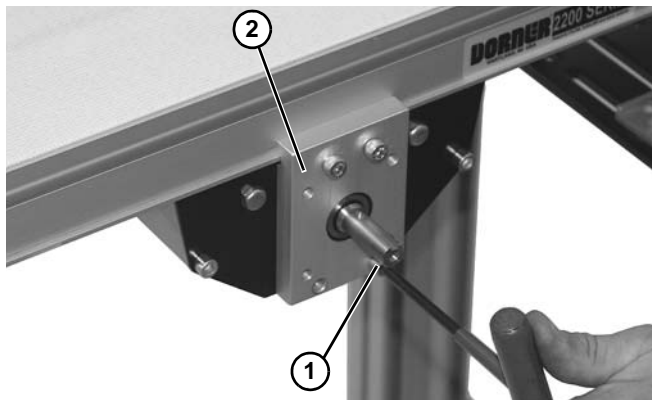
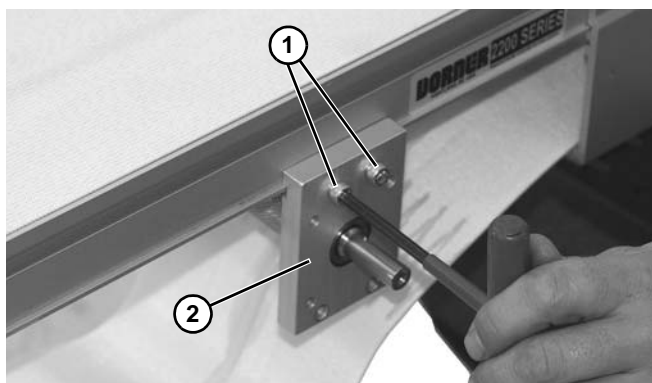

Figure 106
Figure 108
- Loosen one socket head screw (**Figure 106, item 1**) from each side of mounting block (**Figure 106, item 2**).
- Loosen two socket head screws (**Figure 108, item 1**) from each side of mounting block (**Figure 108, item 2**).
- Tighten socket head screws (**Figure 106, item 1**) and (**Figure 108, item 1**) to 60 in-lb (7 Nm).